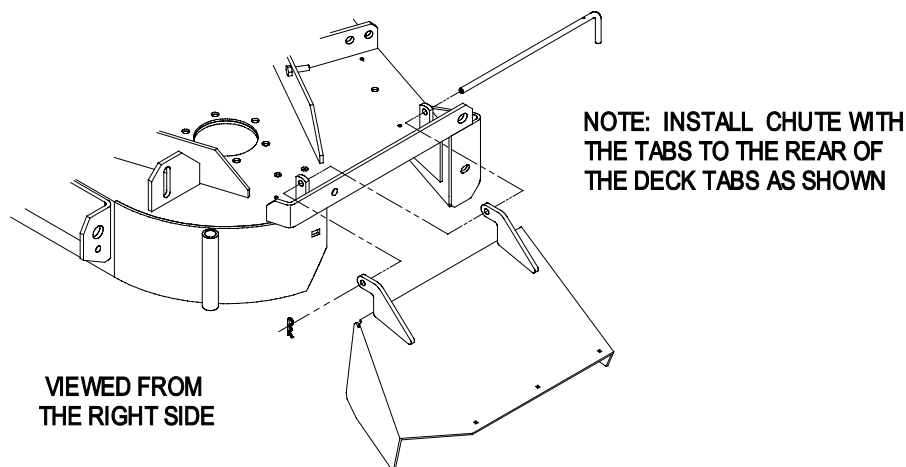

FIGURE 5
15. Install the new discharge chute (Item 20) using the chute pivot pin (Item 18) and hairpin (Item 19) provided as shown in Figure 5.